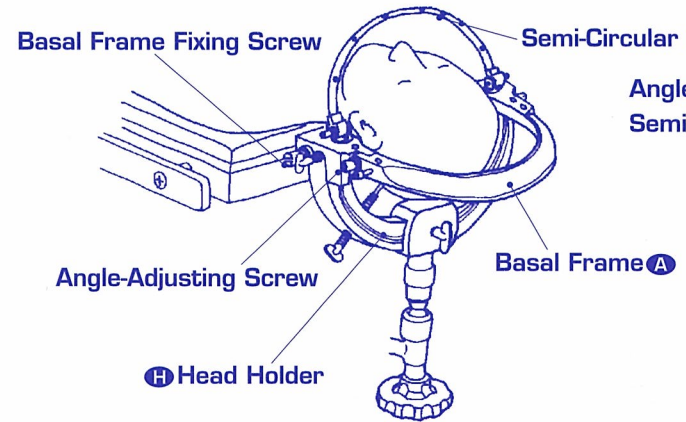

Fig.6-1
5. The Basal Frame (A) is mounted on top of the Head Holder (H) ends perpendicular to the Head Holder (H) (Fig.6-1) Before mounting, loosen the Basal Frame fixing screw at the mounting base on both sides to the fullest extent to provide ample space for mounting.
6. When performing the craniotomy, the Basal Frame (A) may be angled downwards by loosening the angle-adjusting screw so as not to hinder the surgical operation. (Fig.6-2) After the craniotomy, revert the Basal Frame (A) to the horizontal position and fix it securely. (Fig.6-1)